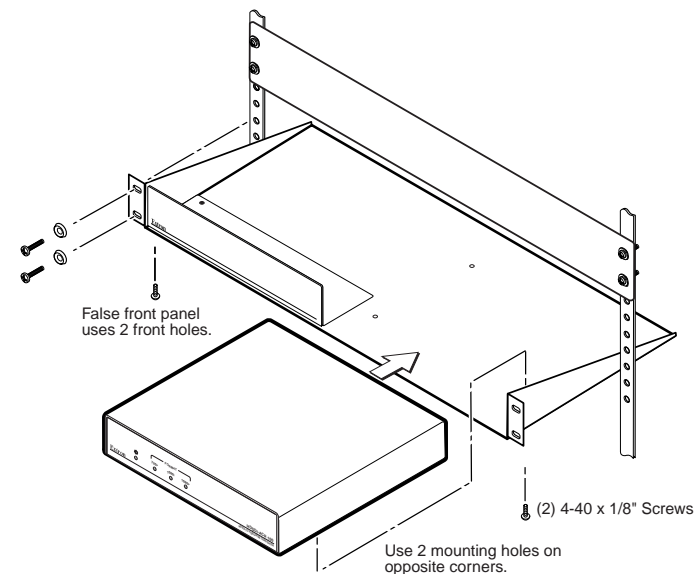

Figure 2 — Rack mounting the SDI-AVR 100
1. For optional rack mounting, mount the converter on one side of a 19" 1U Universal Rack Shelf (Extron part #60-190-01) (figure 2).